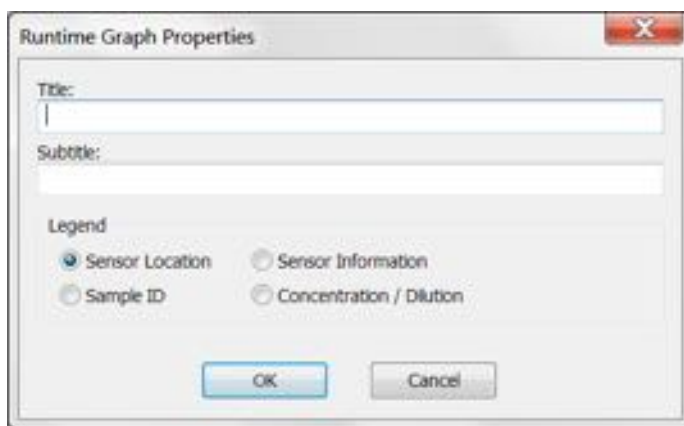

Figure 8-65: Selecting a Runtime Binding Chart Legend
2. In the **Runtime Graph Properties** dialog box (see Figure 8-65), select one of the following legends: